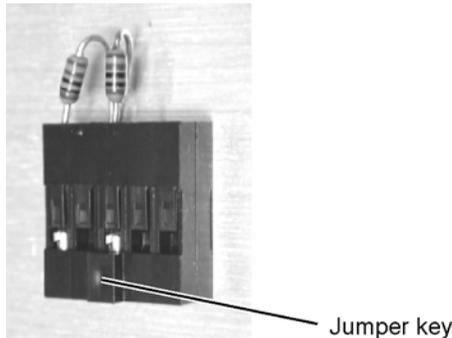
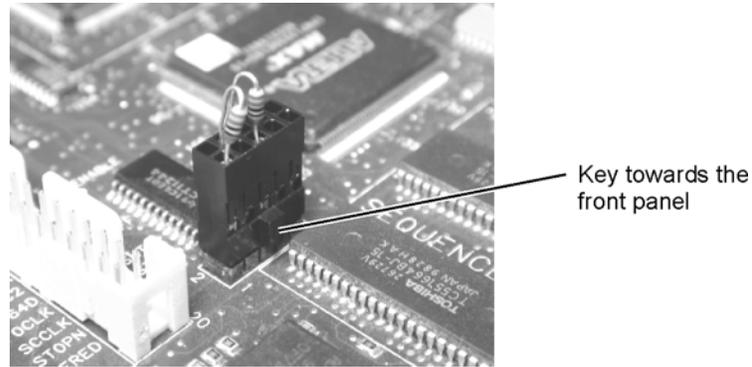

Figure 6-20. Jumper, E2660-01201
Figure 6-21. Placement of the Jumper on P12
- 3 Place the jumper, shown in Figure 6-20, on P12 so that the resistors are connected to pins 1, 4, and 5, shown in Figure 6-21. The jumper key should face towards the front panel.